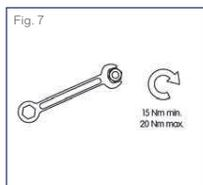

Fig. 7
9. Tighten the nuts using a wrench, typical torque of 15 Nm min. to 20 Nm max (Fig. 7).